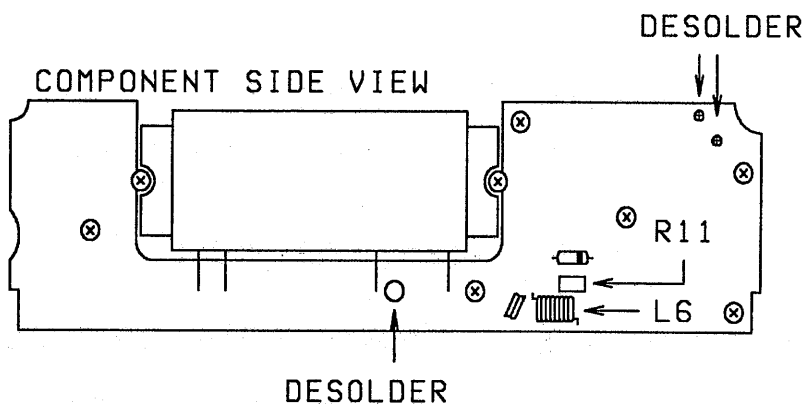

FIGURE 2
4. Remove the 7 screws that secure the final board to the chassis. **Figure 2**
5. Remove the 2 screws that secure the power module to the chassis. **Figure 2**
7. Desolder the center conductor and shield of the VHF antenna coax from the final board and pull the coax out of the heat sink. **Figure 2**
8. Desolder the terminal next to pin 3 of the power module. **Figure 2**